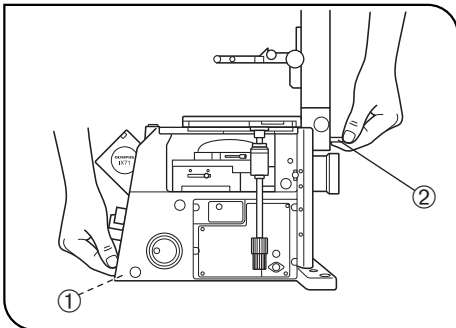

Fig. 2
3. When moving the microscope, remove the observation tube, condenser and reflected light mercury lamp housing, then carefully carry the microscope frame by the base (front edge) ① and the grasping part on the illumination column ② as shown in Fig. 2. (Weight: approx. 20 kg)